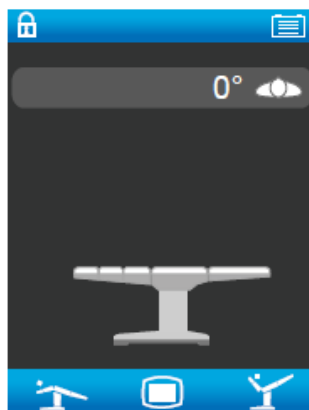

Figure 2-24 Initial interface
- As Figure 2-24 shows, the icon will back to the Initial interface after the position is stored.